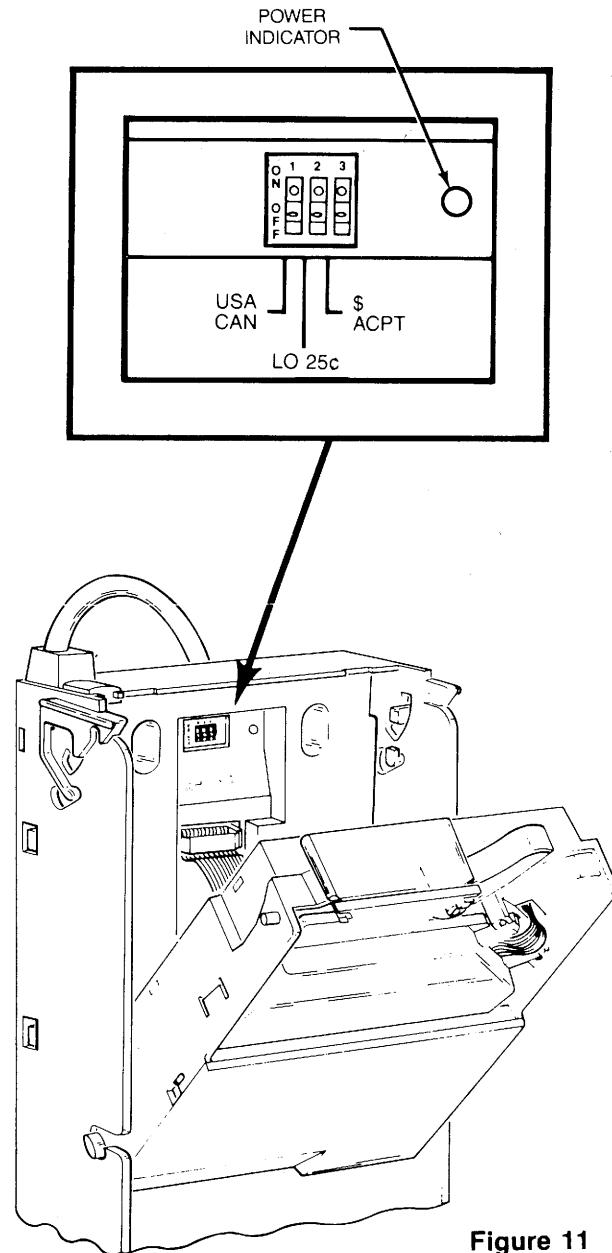

Figure 11
3. Located in the upper portion of the changer is a single switch module with 3 rocker switches. (See Figure 11). When the top of the rocker switch is pushed in, it is in the "ON" position. The switches correspond as follows: